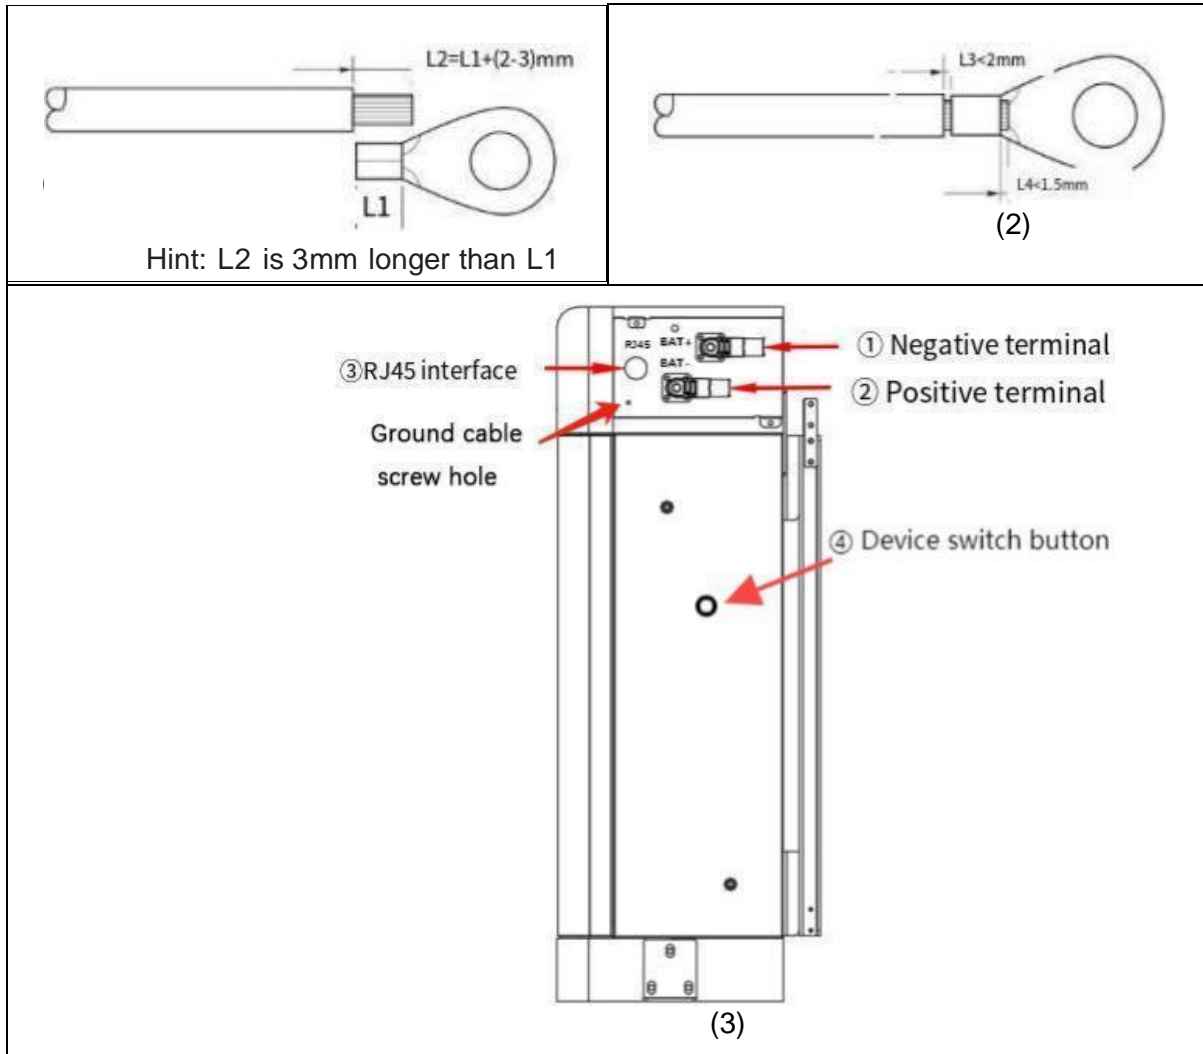

Figure 2-1 Grounding cable connection
Use a wire stripper to remove the insulation from the ground cable to an appropriate length (1), as illustrated in Figure 2-1.
Insert the stripped wire core into the crimping area of the OT terminal and firmly compress it with the crimping pliers (2 in Figure 2-1). The recommended OT terminal is OT M5, and the ground cable diameter should be $\geq 6\text{mm}^2$.
Secure the OT terminal using M4 screws, as shown by (3) in Figure 2-1. The recommended torque for securing the screws is $2\text{N}\cdot\text{m}$.